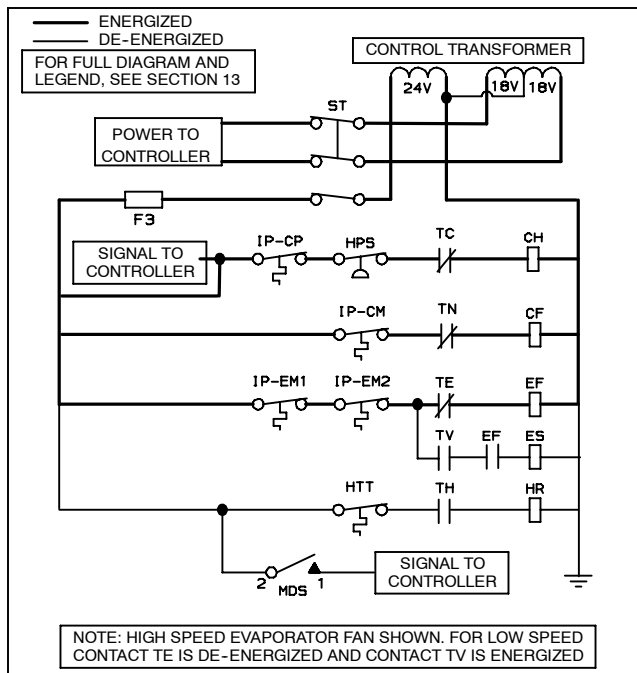

Figure 18. Perishable Mode
- With supply air temperature above set point and decreasing, the unit will be cooling with the condenser fan motor (CF), compressor motor (CH), evaporator fan motors (EF) energized and the COOL light illuminated. (See Figure 18.)